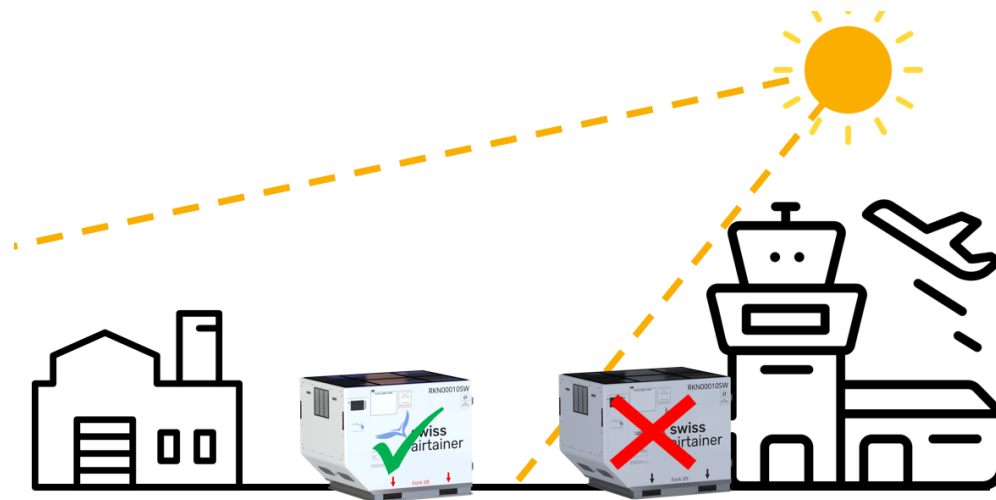

Figure 5 – Positioning of the container for proper sunlight exposure.
2. Place the container outside (§5.3.1) during the day and ensure maximum direct sunlight exposure (Figure 5);